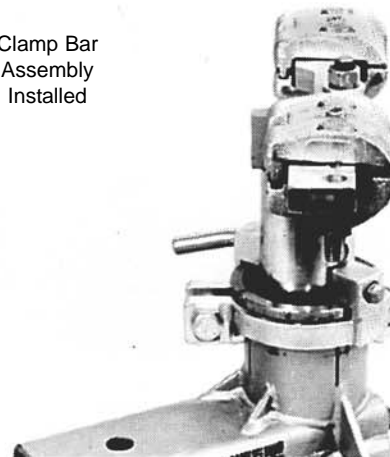

Figure 3
- 4) Attach clamp bar assembly to the adapters bolt and secure using the 5/8 inch washer and nut provided. (See Figure 3.)